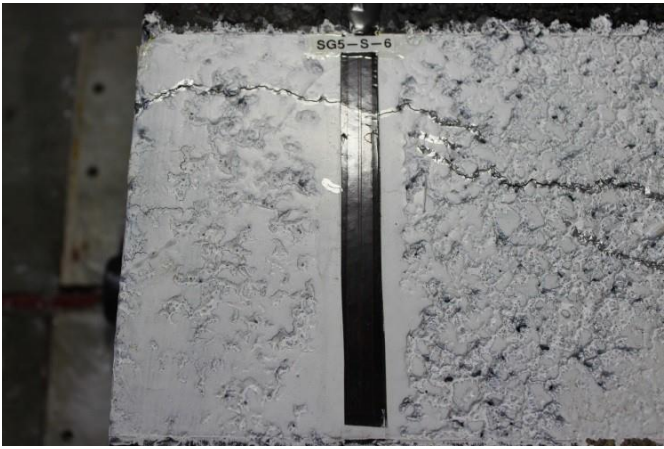

Figure 2. First surface gauge SG5-S-6
- First top surface gauge SG5-S-6, as shown in Figure 2.